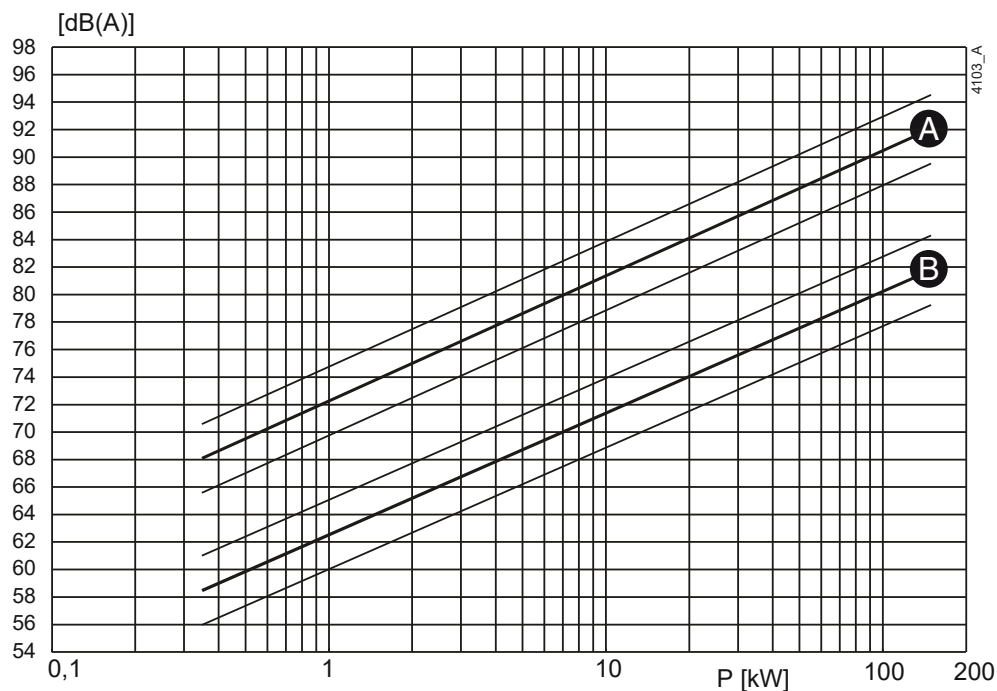
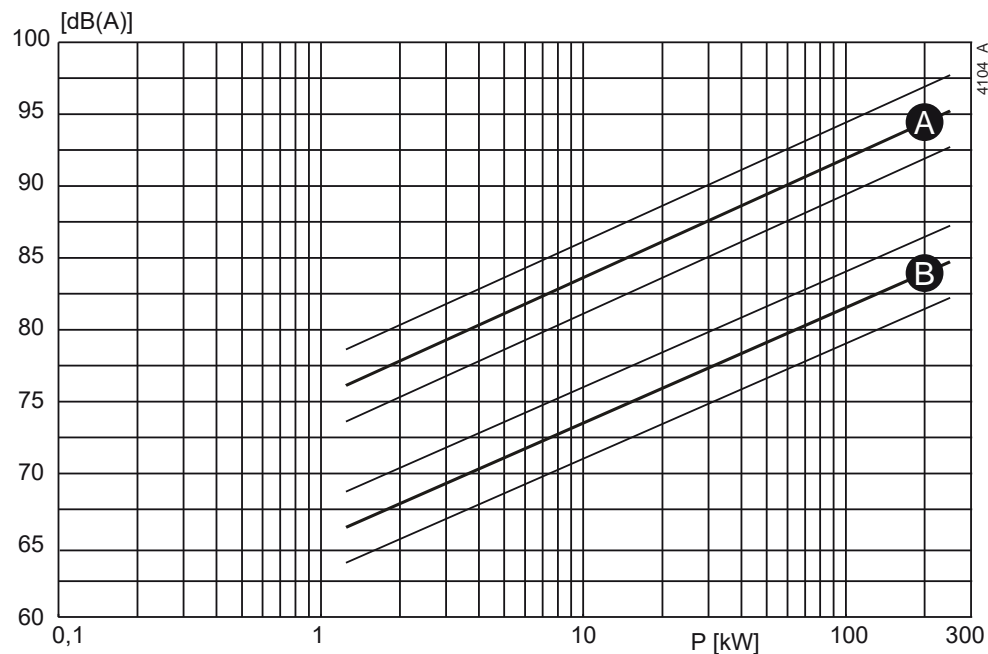

Figure 43: Noise level as function of pump power [kW] at 1450 min⁻¹
Figure 44: Noise level as function of pump power [kW] at 2900 min⁻¹
- 1 Determine the noise level (L_1) of the pump, see figure 43 or figure 44.